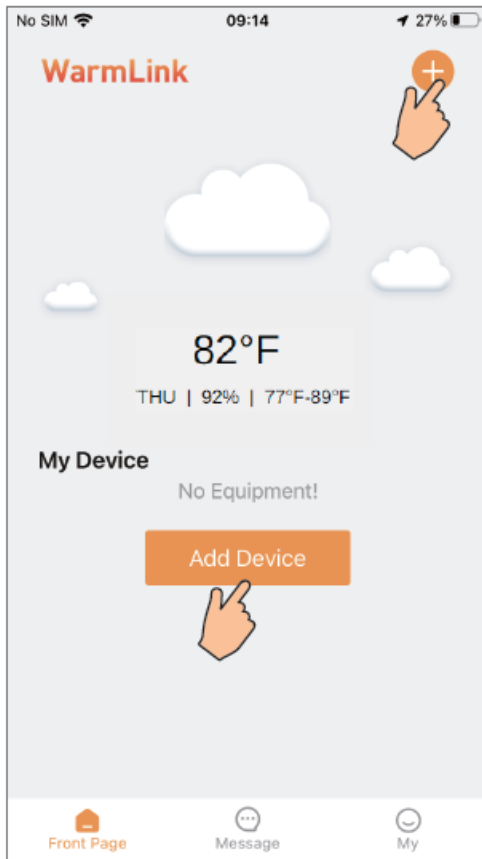

Fig.4 My Device interface
- After login, display My Device interface (Fig. 4), and follow the instructions to add WIFI.